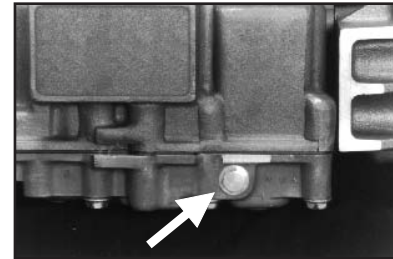

Fig. 1
1. Begin by draining the oil from the transmission. Use caution, since the oil may be hot (**Fig. 1**).